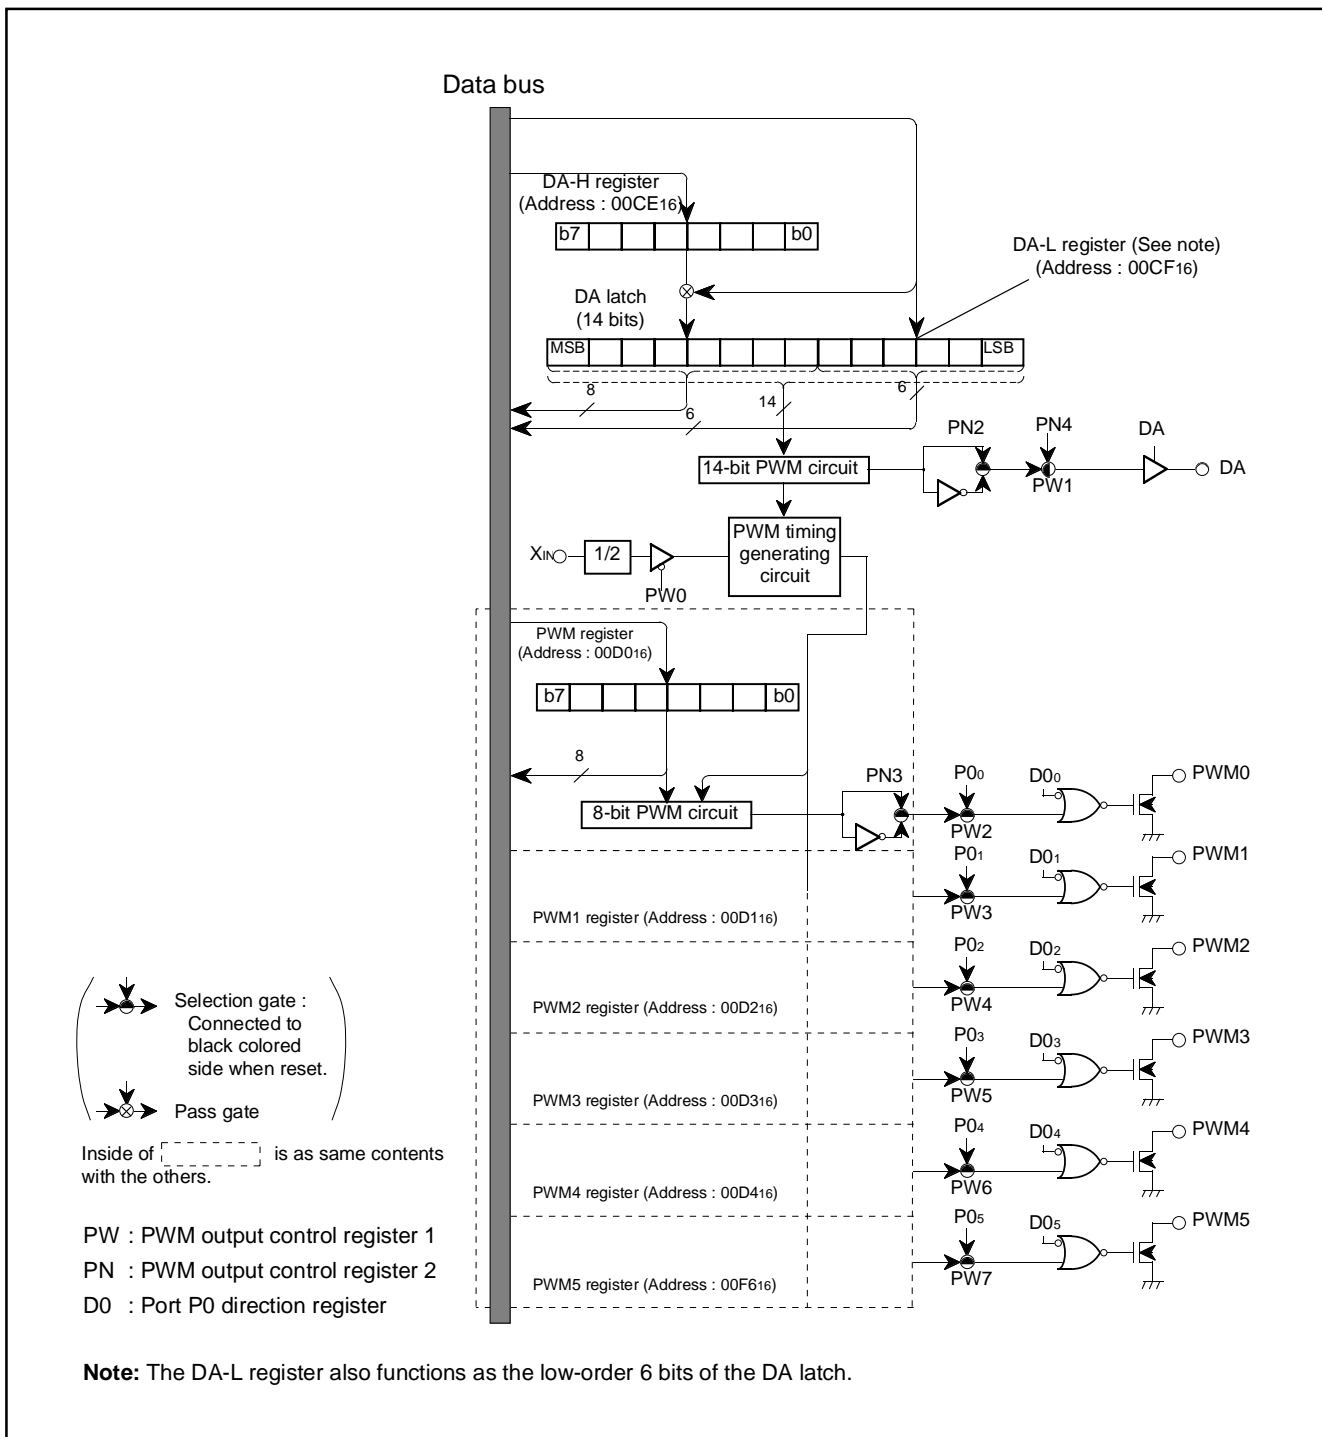

Fig. 8.7.1 PWM Block Diagram
This microcomputer is equipped with two 14-bit PWM (DA) and six 8-bit PWMs (PWM0–PWM5). DA1 and DA2 have a 14-bit resolution with the minimum resolution bit width of 0.25  $\mu$ s and a repeat period of 4096  $\mu$ s (for  $f(X_{IN}) = 8$  MHz). PWM0–PWM7 have the same circuit structure and an 8-bit resolution with minimum resolution bit width of 4  $\mu$ s and repeat period of 1024  $\mu$ s (for  $f(X_{IN}) = 8$  MHz). Figure 8.7.1 shows the PWM block diagram. The PWM timing generating circuit applies individual control signals to DA and PWM0–PWM5 using  $f(X_{IN})$  divided by 2 as a reference signal.